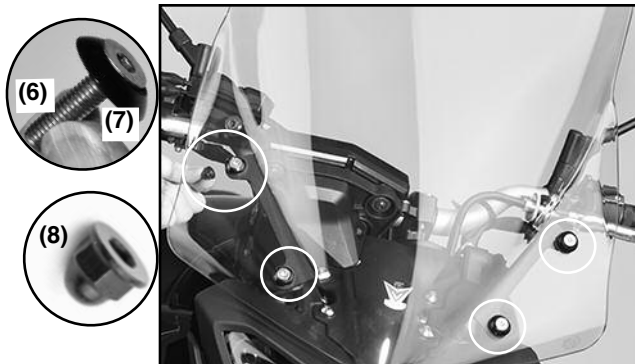

Figure 5
6. Install VStream Windscreen to Brackets using Screws (6), Trim Caps (7) and Cap Nuts (8). (5mm Hex Key and 10mm Socket Wrench) Figure 5